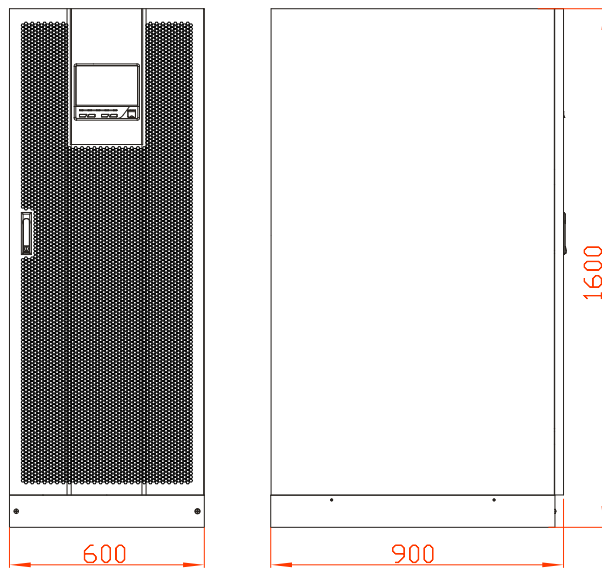

Figure3-14 Size of PS-POU 160kW, PS-POU 200kW
- Step 1 Determine and plan the installation position according to the UPS size (as shown in Figure3-14) and installation clearance requirement (see 3.2.3 Installation).